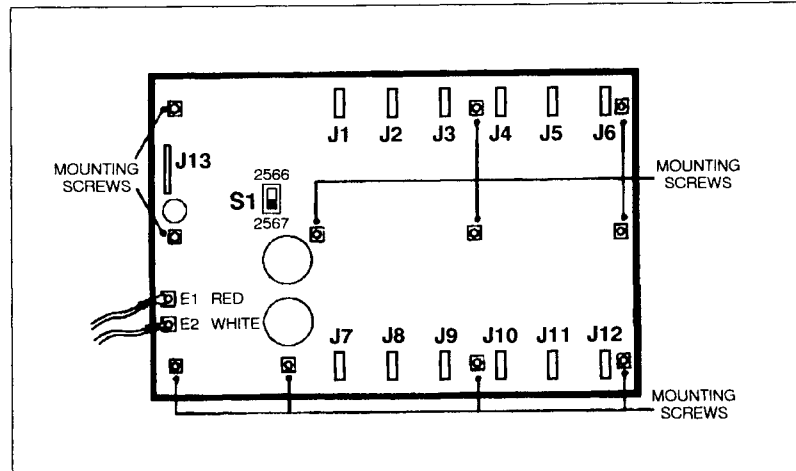

Figure 6-11. Hammer Driver PCA
- d. Remove the eleven mounting screws (see Figure 6-11).